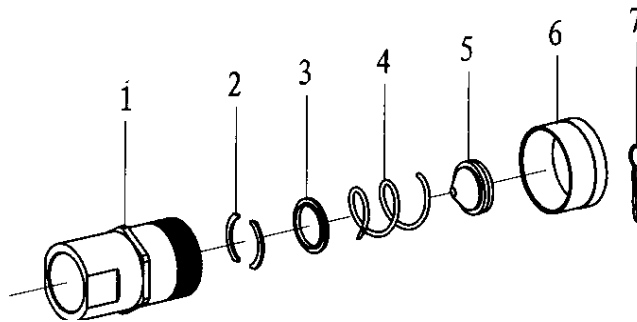

Fig. 24
7.1.17 Quick exchange adaptor (1 7/8-12UN) (Fig.24, Table.19)